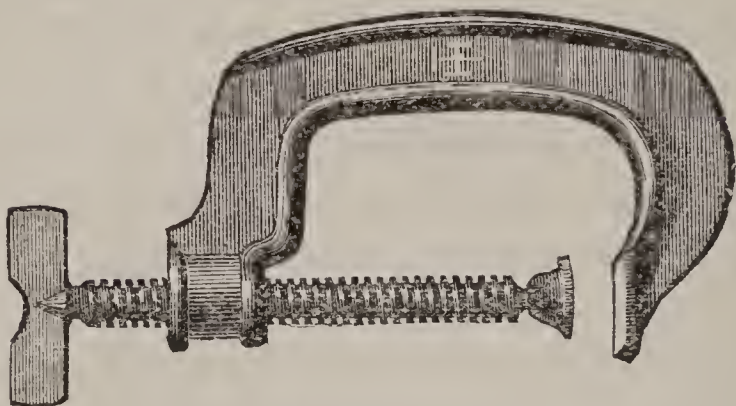

FIGURE 8.
*Iron Clamps.*—A pair of malleable iron clamps (shown in Fig. 8), opening about four inches, are